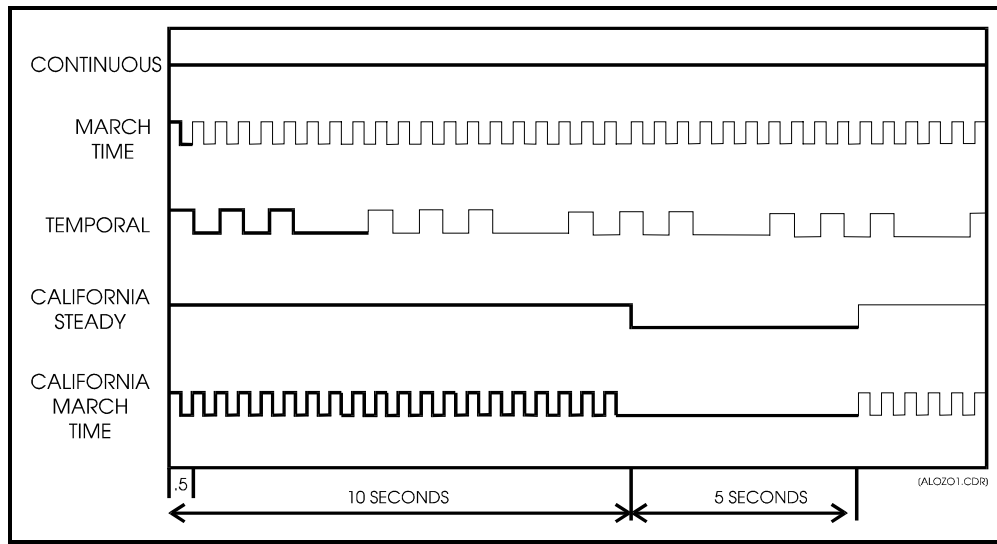

Figure 3.3 - IAC Signal Rates
- **Programmable Options** include: verified or non-verified alarm; waterflow with or without retard; and supervisory Initiating Device Circuits (IDCs). Verified circuits support dry contact alarm initiating devices when used with high impedance smoke detectors. Indicating Appliance Circuits (IACs) may be programmed as silenceable or non-silenceable with continuous, March Time at 120 Strokes per Minute (SPM), California, or temporal rates (Figure 3.3). The temporal rate meets the requirements of the national emergency evacuation signal. Alarm silence/reset inhibit, automatic alarm silence, and off-premise AC/brownout 6 hr. trouble delay timers are provided. Resettable power for 4-wire smoke detectors is provided.
- **Hardware Options** include an 2400-RCT Relay/City-Tie Module with provisions for municipal box, reverse polarity and dry relay contact operation. The 2400-BPA Class A Base Panel Converter is available to convert the IDC and IAC circuits on the Base panels to Class A (Style D) IDC and Class A (Style Z) IAC wiring. The 2400-IDCA Class A (Style D) IDC Converter is available to convert 2400-2IDC Two Zone IDC Modules to Class A (Style D) wiring. The 2400-DL1 Dialer Module provides a supervised connection to a Central Monitoring Station via dial-up telephone lines. The 2400-ADM Four Circuit Remote Annunciator Driver Master Module and the 2400-ADS Four Circuit Remote Annunciator Driver Slave Module are available to supervise and drive remote annunciation panels. All circuits external to the panel are transient protected. All circuits except the AC power wiring, municipal box, and relay contacts are power limited. Panel option module capacity is indicated in Table 2.1. The panels have steel enclosures with a textured baked enamel finish. The enclosure has a Lexan™ viewing window, key lock, and is suitable for semi-flush or surface mounting. Room is provided in the enclosure for standby batteries. Conduit and nail knockouts, and keyhole style mounting holes help support quick installation. An optional battery enclosure, model 2400-BATBOX (R), is available when 10 Amp-Hour batteries are required.
Two supervised Indicating Appliance Circuits (IACs) operate using compatible 24 VDC (nominal) polarized signaling appliances. Each circuit is rated at nominal 24 VDC @ 2.5 Amps, with a total of 4.0 Amps available for both circuits. An IAC may be programmed as either silenceable or non-silenceable. Signal rate selection is independently programmable for each IAC as shown in Figure 3.3. Refer to the Appendix for compatible Indicating Appliances.